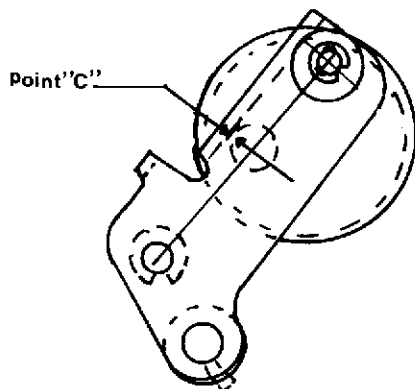

Figure 3-45. AUTO LOOP RESET ADJUSTMENT
**15. Auto Loop Reset Adjustment (Fig.3-45)**